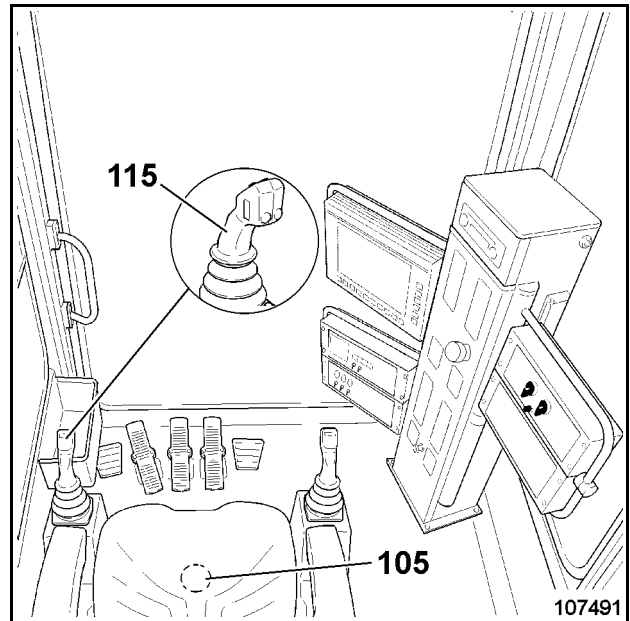

Fig. 2-108:
- ➔ To swing the superstructure to the right - move control lever to the right (115, Fig. 2-108:).
- ➔ To swing the superstructure to the left - move control lever to the left (115).